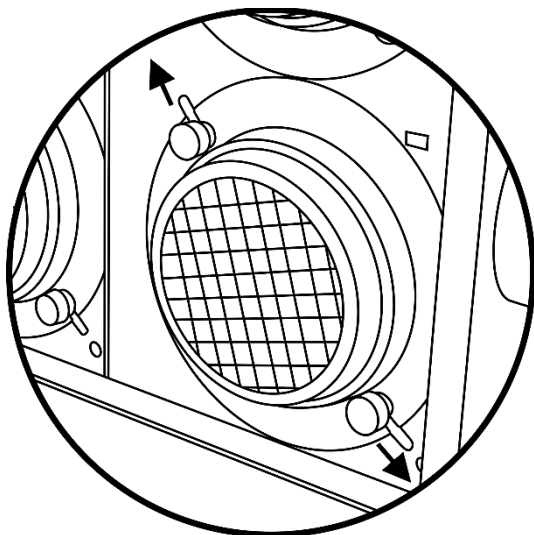

Fig. 03
- 01) Pull the 2 fixation screws on the front of the lamp housing (Fig. 03).